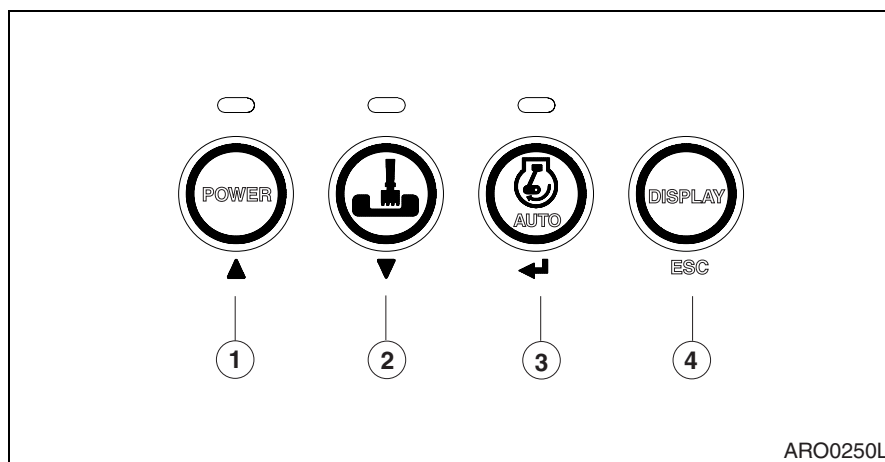

Figure 18
1. If escape button (ESC, 4 on Figure 18) is pressed for more than 1 second, the special menu screen will be returned to the normal mode screen.
Various sub-menus can be selected by pressing "Up (▲, 1 on Figure 18)" and "Down (▼, 2 on Figure 18)" button.
When the selected menu is inverse displayed, press the "Enter (↵, 3 on Figure 18)" button for menu selection.
1. Entering Sub-menus: When cursor is located on "Machine Info" of special menu screen, press "Enter (↵, 3 on Figure 18)" button and the "Machine Info Sub-menu" will be displayed.
2. Exiting Sub-menus: If escape button (ESC, 4 on Figure 18) is pressed for more than 1 second, display will be turned to previous sub-menu.
1. Entering Sub-menus: When a cursor is located in "Failure Info" of special menu screen press enter button (↵, 3 on Figure 18) and "Failure Info" screen is displayed.
2. Exiting Sub-menus: If escape button (ESC, 4 on Figure 18) is pressed for more than 1 second, this information screen will be returned to previous screen.